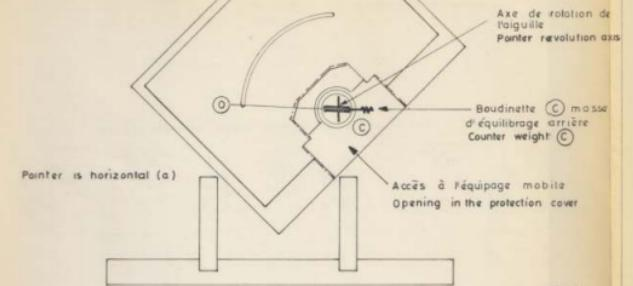

FIG 3
- Calibration is done by varying R24 resistance (see Fig.3) .